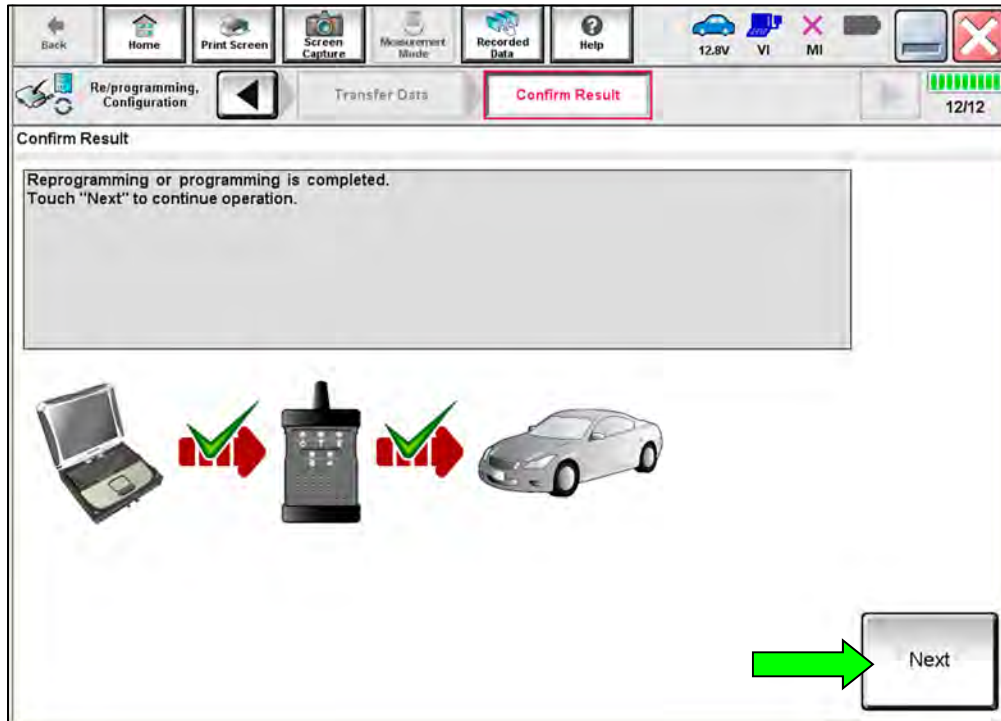

Figure 27
**NOTE:** When the screen in Figure 27 displays, ECM reprogramming is complete. If the screen in Figure 27 does not display (indicating that reprogramming did not complete), refer to the information on the next page.